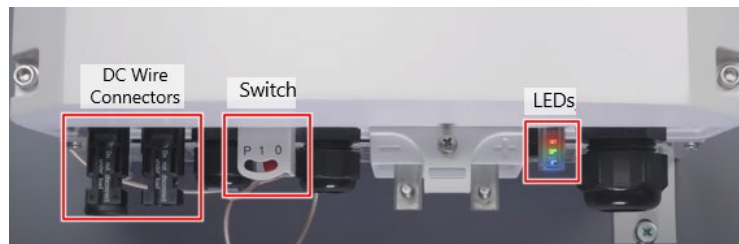

Figure 2 SolarEdge Home Hub Inverter Three Phase - Controls and Connectors
5. Turn the switch of the Inverter to "0" and wait until the red LED is off (see Figure 2).
9. Disconnect the DC wires of the PV strings from the inverter (see Figure 2).
14. Connect the DC wires of the PV strings to the inverter (see Figure 2).
- Turn the Switch of the Inverter to "0" (see Figure 2).
- e. Turn the Switch of the Inverter to "I" to turn on the Inverter (see Figure 2).